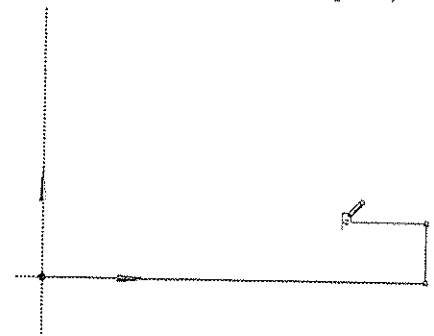

Figure 3-25 Specifying the startpoint of the line 4
13. Move the cursor close to the end point of line3; the symbol of Coincident Point constraint (P) is displayed. Click at that point to specify the start point of line 4, as shown in Figure 3-25.